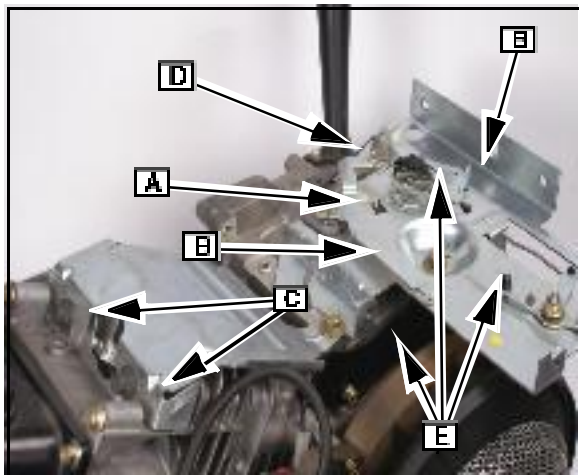

Fig. 12
1. Remove governor lever. (A).
2. Disconnect springs and links (B) from governor lever.
3. Remove head bolts (C) that secure the control bracket to the cylinder head. When baffle is removed, re-install the bolts hand tight.
4. Remove the oil fill tube screw. ([D] Fig. 12)
5. Remove control bracket screws. ([E] Fig. 12).